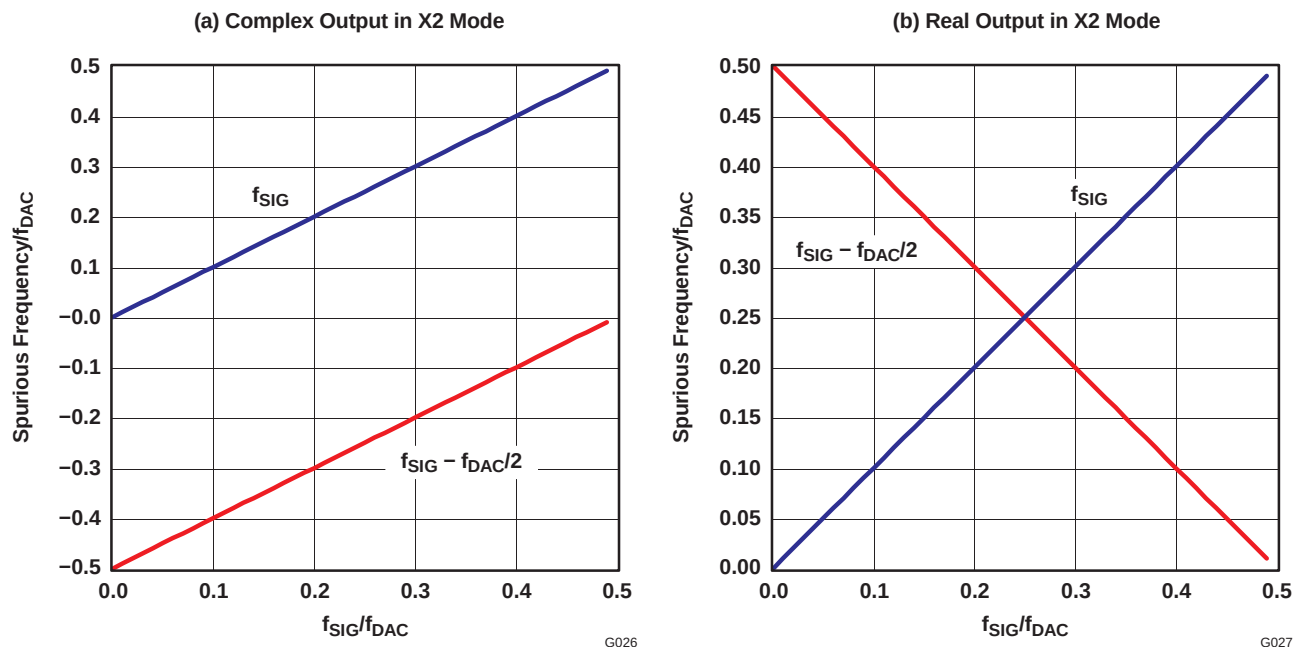
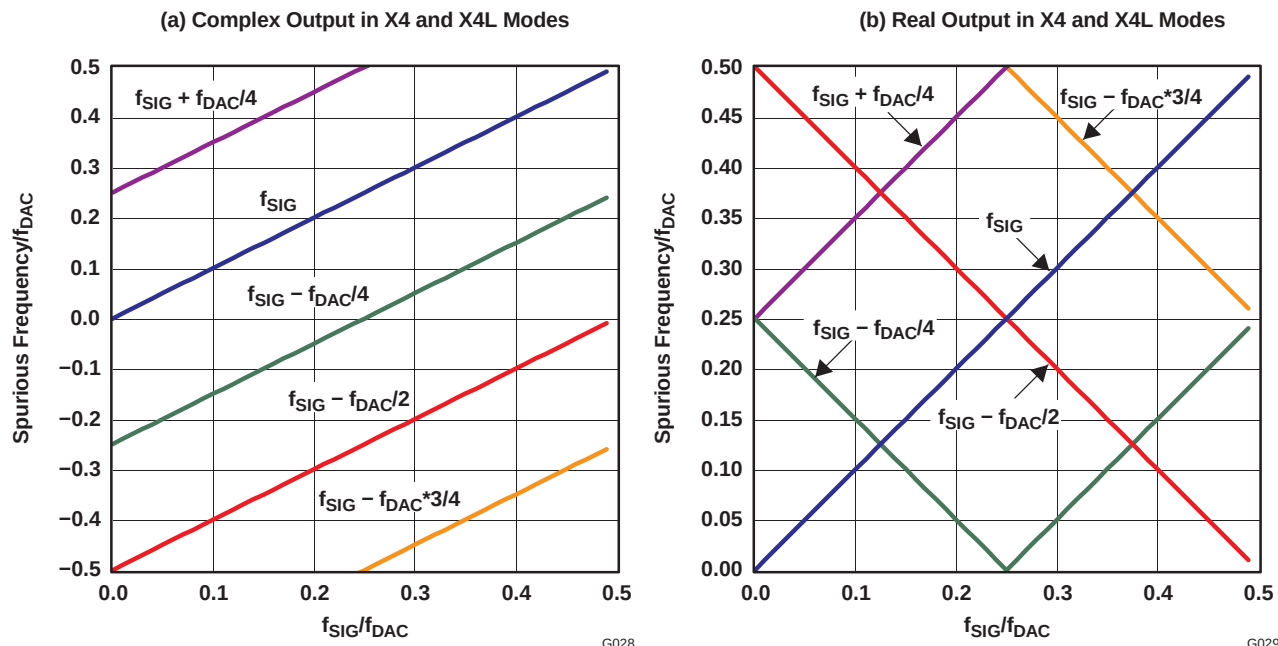
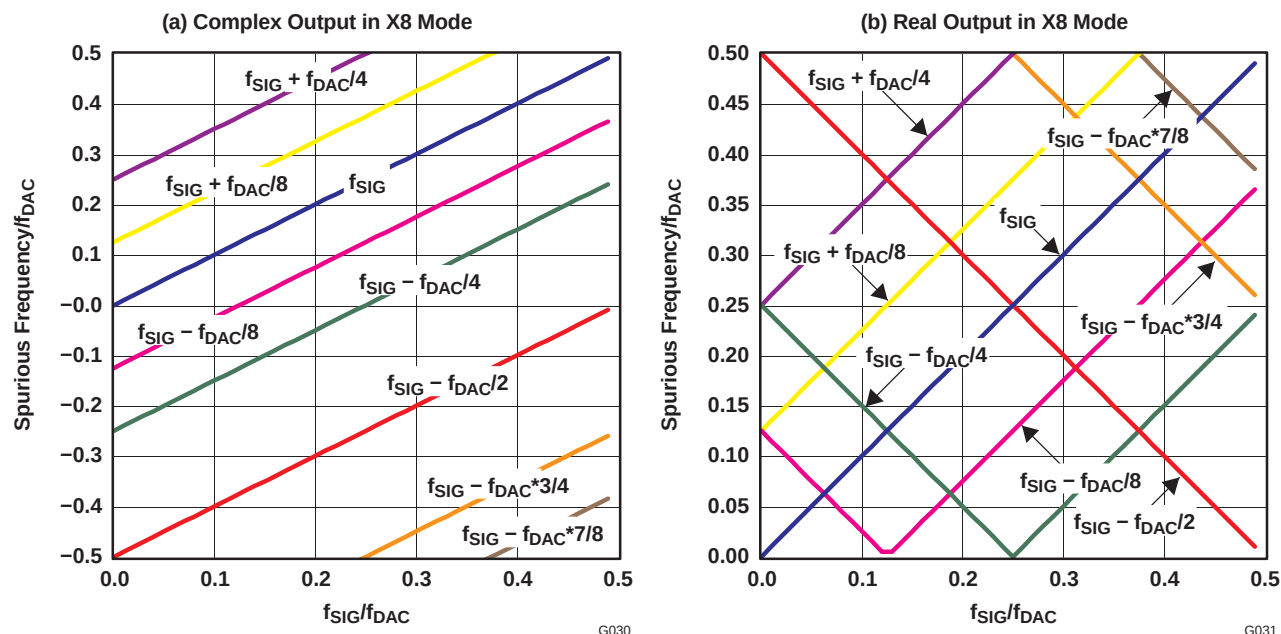
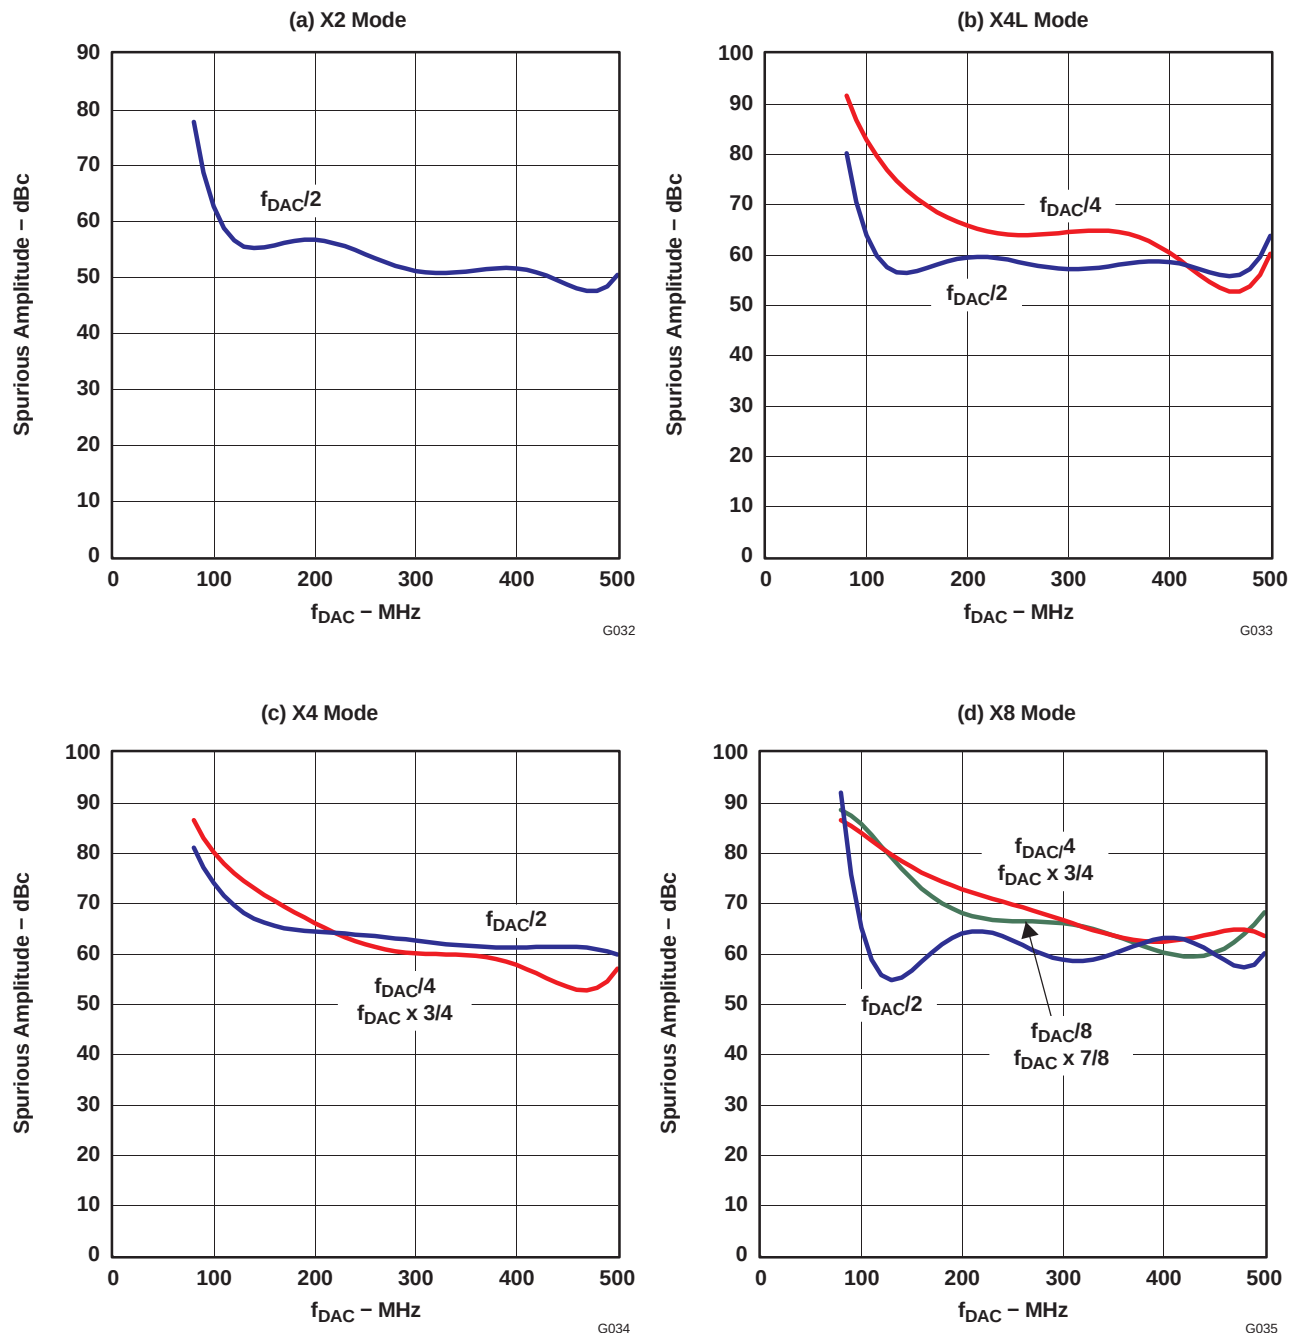

Figure 70. Frequency of Clock Mixing Spurious Images in X2 Mode
Figure 71. Frequency of Clock Mixing Spurious Images in X4 and X4L Modes
Figure 72. Frequency of Clock Mixing Spurious Images in X8 Mode
Figure 73. Clock-Related Spurious Signal Amplitude With PLL Off for $f_{SIG} = 11 \times f_{DAC} / 32$
Figure 70 shows the location of spurious signals for X2 mode as a function of $f_{\text{SIG}}/f_{\text{DAC}}$. For complex outputs, the spurious frequencies cover a range of $-0.5 \times f_{\text{DAC}}$ to $0.5 \times f_{\text{DAC}}$, with the negative complex frequency indicating that the spurious signal falls in the opposite sideband from the wanted signal at the output of the AQM. For the real output, the phase information for the spurious signal is lost, and therefore what was a negative frequency for the complex output is a positive frequency for a real output.
Figure 71 shows the location of spurious signals for X4 and X4L mode as a function of $f_{\text{SIG}}/f_{\text{DAC}}$. The addition of the $f_{\text{DAC}}/4$ clock frequency for the first interpolation filter creates three new spurious signals. For a complex output, the nearest spurious signals are $f_{\text{DAC}}/4$ offset from f_{SIG} . For a real output, the signal due to $f_{\text{SIG}} - f_{\text{DAC}}/4$ and $f_{\text{SIG}} - f_{\text{DAC}} \times 3/4$ falls in band as f_{SIG} approaches $f_{\text{DAC}}/8$ and $f_{\text{DAC}} \times 3/8$. This creates optimum real output frequencies $f_{\text{SIG}} = f_{\text{DAC}} \times N/16$ ($N = 1, 3, 5$, and 7), where the minimum spurious product offset from f_{SIG} is $f_{\text{DAC}}/8$.
Figure 72 shows the location of spurious signals for X8 mode as a function of $f_{\text{SIG}}/f_{\text{DAC}}$. The addition of the $f_{\text{DAC}}/8$ clock frequency for the first interpolation filter creates four new spurious signals. For a complex output, the nearest spurious signals are $f_{\text{DAC}}/8$ offset from f_{SIG} . For a real output, the optimum real output frequencies $f_{\text{SIG}} = f_{\text{DAC}} \times N/16$ ($N = 3$ and 5), where the minimum spurious product offset from f_{SIG} is $f_{\text{DAC}}/8$.
Figure 73 and Figure 74 show the typical worst-case spurious signal amplitudes vs f_{DAC} for a signal frequency $f_{SIG} = 11 \times f_{DAC}/32$ in each mode for PLL on (PLL clock mode) and PLL off (external and dual-clock modes). Each spurious signal ($f_{DAC}/2$, $f_{DAC}/4$ and $f_{DAC}/8$) has its own curve. The spurious signal amplitudes can then be adjusted for the exact signal frequency f_{SIG} by applying the amplitude adjustment factor shown in Figure 75. The amplitude adjustment factor is the same for each spurious signal ($f_{DAC}/2$, $f_{DAC}/4$, and $f_{DAC}/8$) and is normalized for $f_{SIG} = 11 \times f_{DAC}/32$.
1. Find the spurious signal frequencies for the appropriate mode from Figure 70, Figure 71, or Figure 72.
2. Find the amplitude for each spurious frequency for the appropriate mode from Figure 73 or Figure 74.
First, the location of the spurious signals is found for the X4 complex output in Figure 71\(a\). Three spurious signals are present in the range $-0.5 \times f_{\text{DAC}}$ to $0.5 \times f_{\text{DAC}}$: two from $f_{\text{DAC}}/4$ (35 MHz and -215 MHz) and one from $f_{\text{DAC}}/2$ (-90 MHz). Consulting Figure 73\(c\), the raw amplitudes for $f_{\text{DAC}}/2$ and $f_{\text{DAC}}/4$ are 60 and 58 dBc, respectively. From Figure 75, the amplitude adjustment factor for $f_{\text{SIG}} = 0.32 \times f_{\text{DAC}}$ is estimated at ~1 dB, and so the $f_{\text{DAC}}/2$ and $f_{\text{DAC}}/4$ are adjusted to 61 and 59 dBc.
First, the location of the spurious signal is found for the X2 real output in Figure 70\(b\). One spurious signal is present in the range 0 to $0.5 \times f_{\text{DAC}}$ at $0.325 \times f_{\text{DAC}}$ (see Table 17). Consulting Figure 74\(a\), the raw amplitude for $f_{\text{DAC}}/2$ is 47 dBc. From Figure 75, the amplitude adjustment factor for $f_{\text{SIG}} = 0.175 \times f_{\text{DAC}}$ is estimated at ~6 dB, and so the $f_{\text{DAC}}/2$ spurious signal is adjusted to 53 dBc.